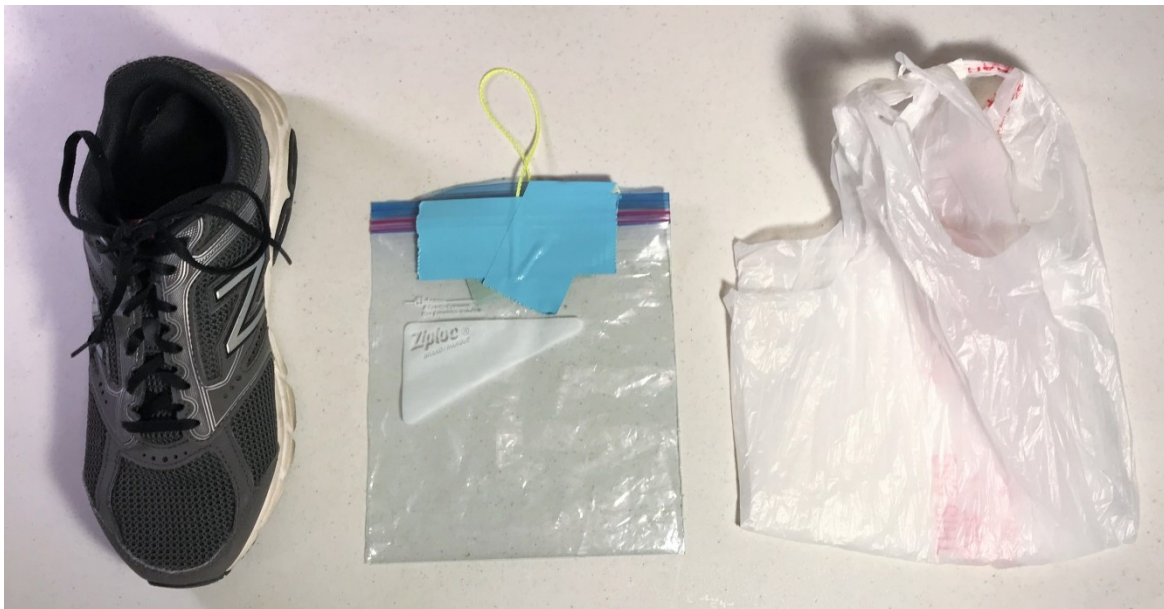

Fig. 3: Possible carriers to hang weights from the spring (shoe, bag from lab 10, shopping bag)
1. Find a “carrier”, such as a plastic bag or shoe, to hang from the spring and hold the various weights (smartphone, 100 pennies, Hot Wheels cars, wood block, etc.) (see Fig. 3). The mass of your carrier needs to be less than the spring balance maximum so that you can weigh it on the spring balance.